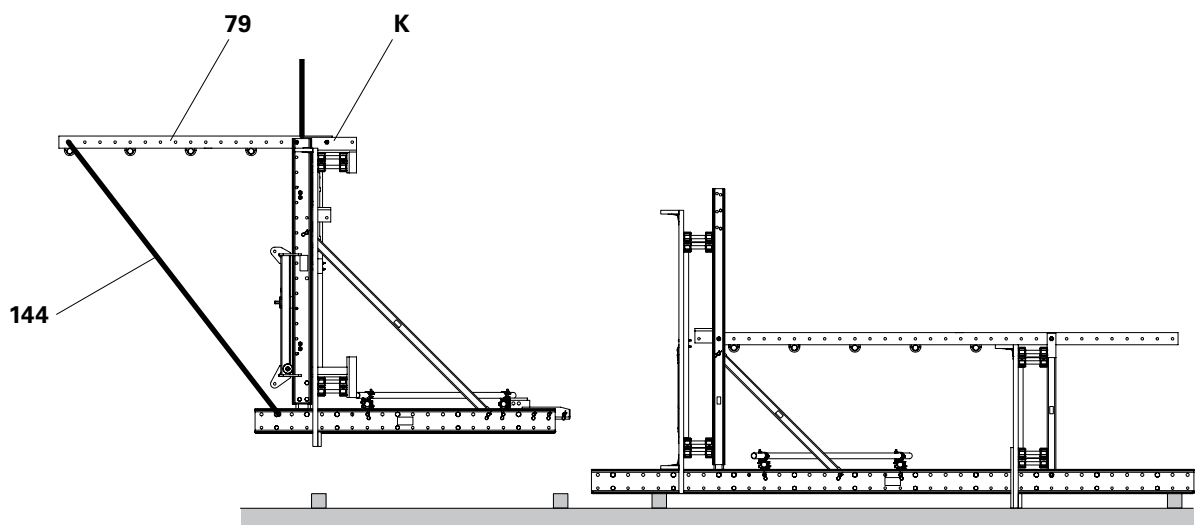

Fig. C4.11
2. Attach bracket unit (**K**) to the Carriage (fitting pin $\varnothing 21 \times 120$), lift out of the Climbing Shoes and place with the Climbing Rails on timbers. (Fig. C4.11)